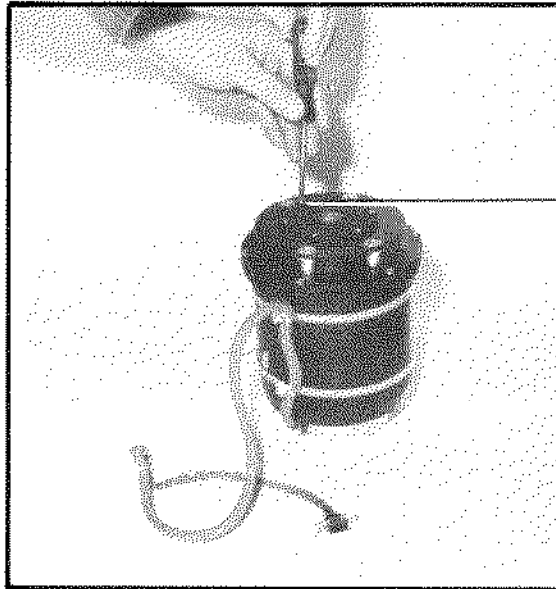

Fig. 3-10:
- Fasten the insert to the outer sphere cover by means of 6 screws (cf. Fig. 3-10).